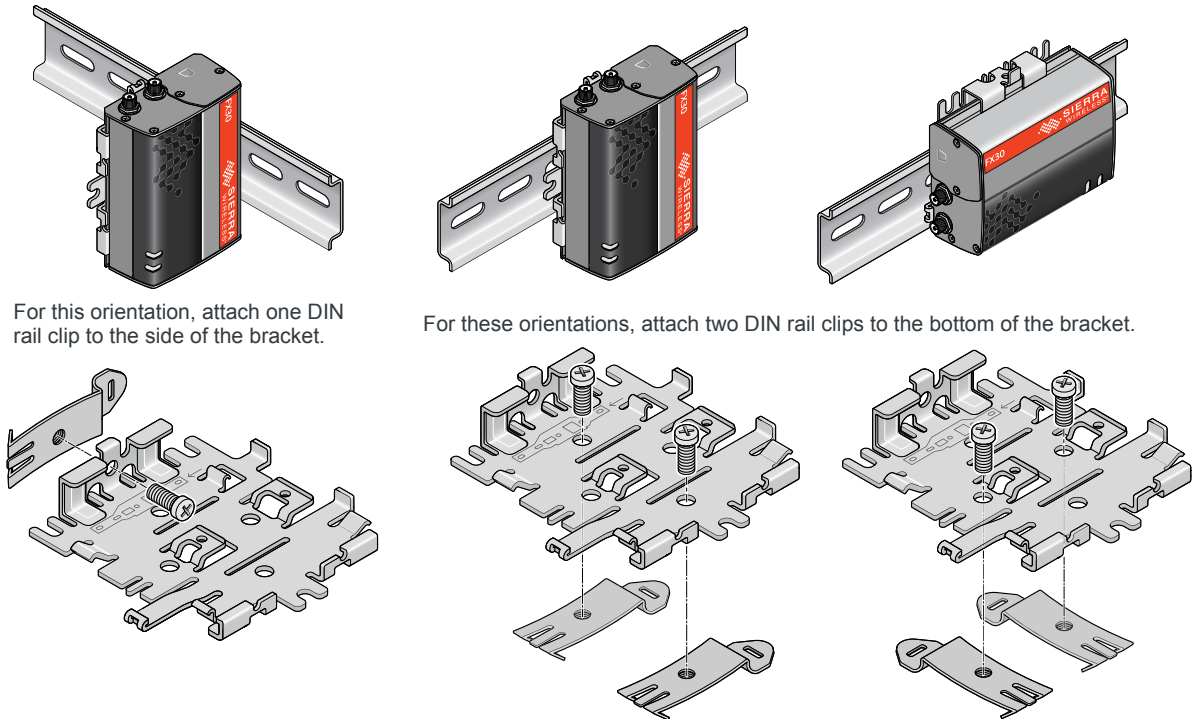

Figure 2-5: Attaching the DIN rail clips
1. Attach the DIN rail clips to the bracket as shown in Figure 2-5.
3. Attach the FX30 to the DIN Rail. See Figure 2-5.